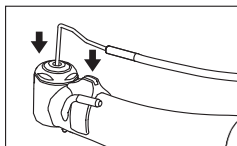

Fig.8
3) Insert the end of the Internal Spray Nozzle into the hole at the top of the handpiece head, then attach the Internal Spray Nozzle into the slot on the Nozzle Holder. (Fig.8)